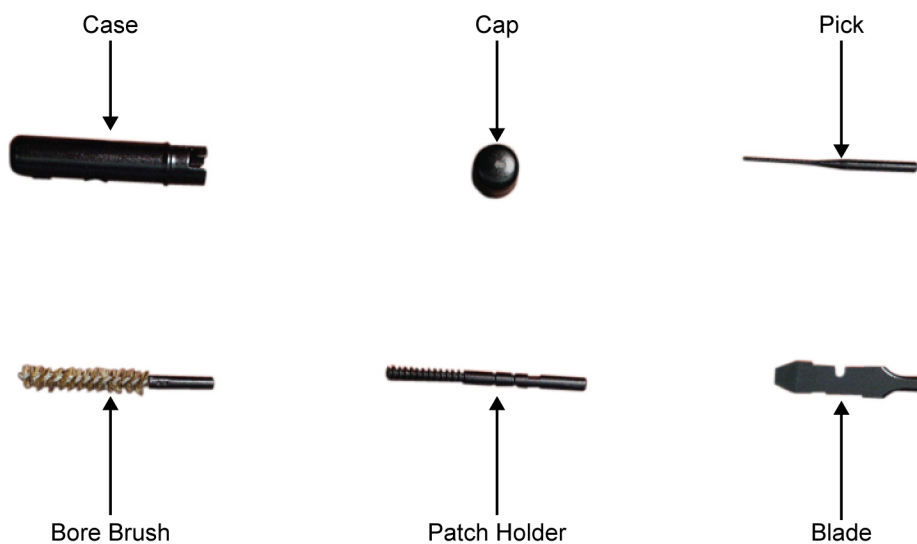

Figure 1. Combination Tool Kit.
1. Combination tool kit. Refer to Figure 1.